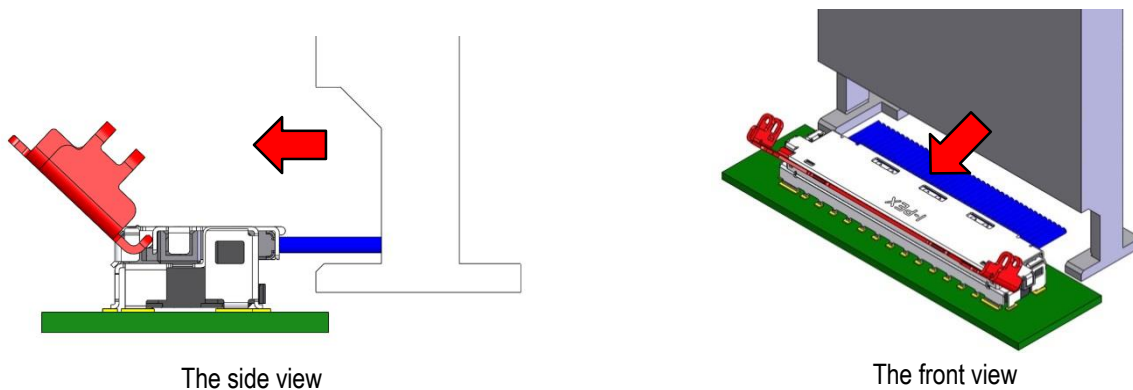

Fig.16
- ③ Slide the “pull jig” from the side of a cable and attach to the cable connector.(see Fig.16)